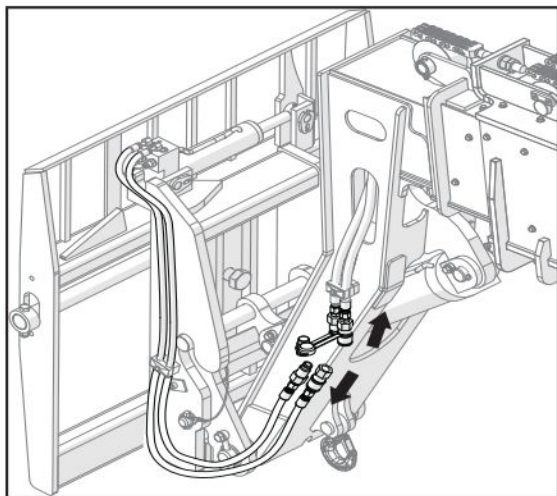

Figure 49 Auxiliary Hydraulics disconnection
5. After the locking device is installed, disconnect the auxiliary hydraulic hoses and cover them with the existing caps. Refer to figure 49.